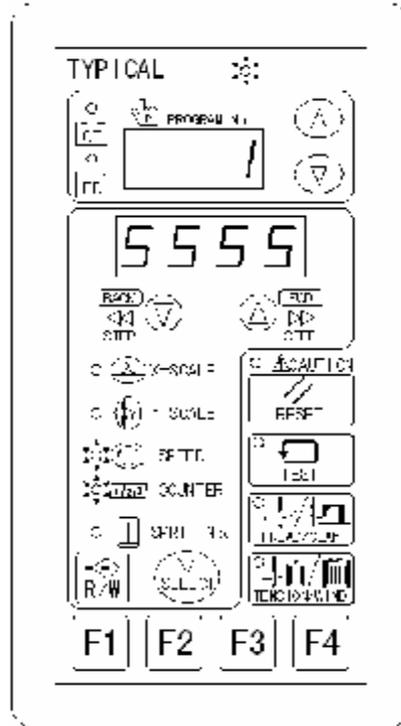

Fig. 5-17
3. Press  key to save the set-point and exit the set-up interface of production counter (as shown in Fig. 5-17), and PROGRAM No. display area shows pattern number, with menu display indicative of the second four-digital set-point values.